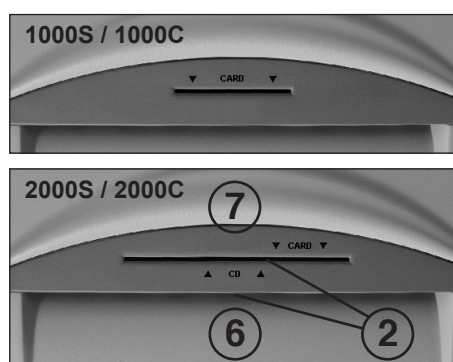

fig. 2
2 = Light barrier (forward running) (fig. 2)
- Feed the paper into the cutting system through the paper feed slot (6) (fig. 2).
- Feed the data media (CDs, DVDs or credit cards) into the cutting system one by one through the separate CD/DVD(CARD) feed slot (7) (fig. 2).